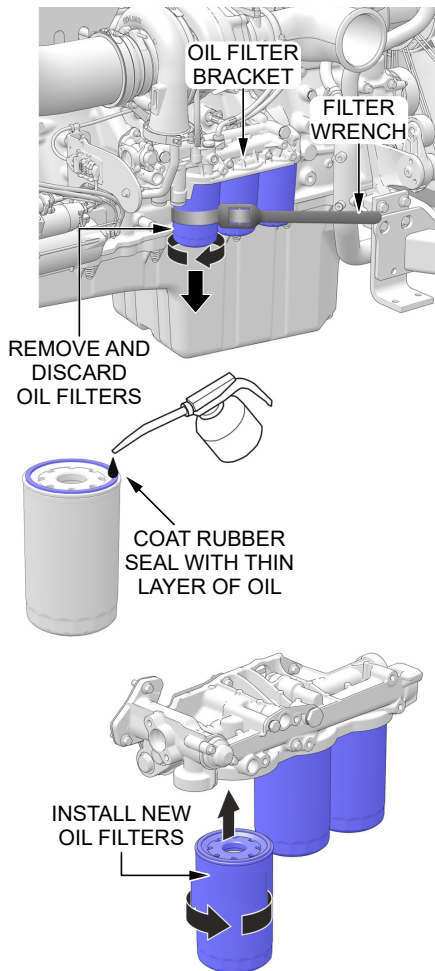

Figure 69. Oil Filter Replacement
1. Clean the area around the **oil filter bracket** (Figure 69).
2. Using a **filter wrench**, remove all engine oil filters (Figure 69).
4. Coat the rubber seal (gasket) surface of the new oil filters with clean 15W-40 engine oil (Figure 69).